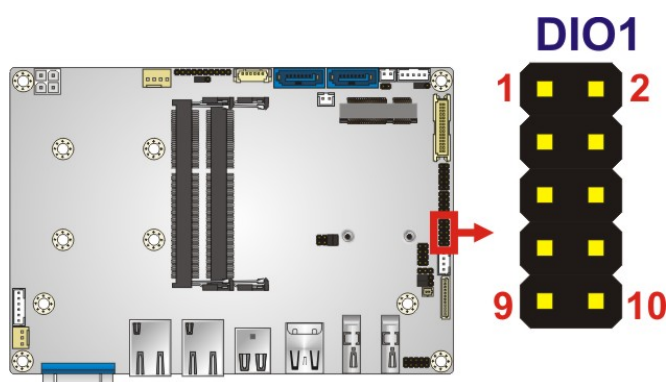

Figure 3-4: DIO Connector Location
- CN Location:** See **Figure 3-4**